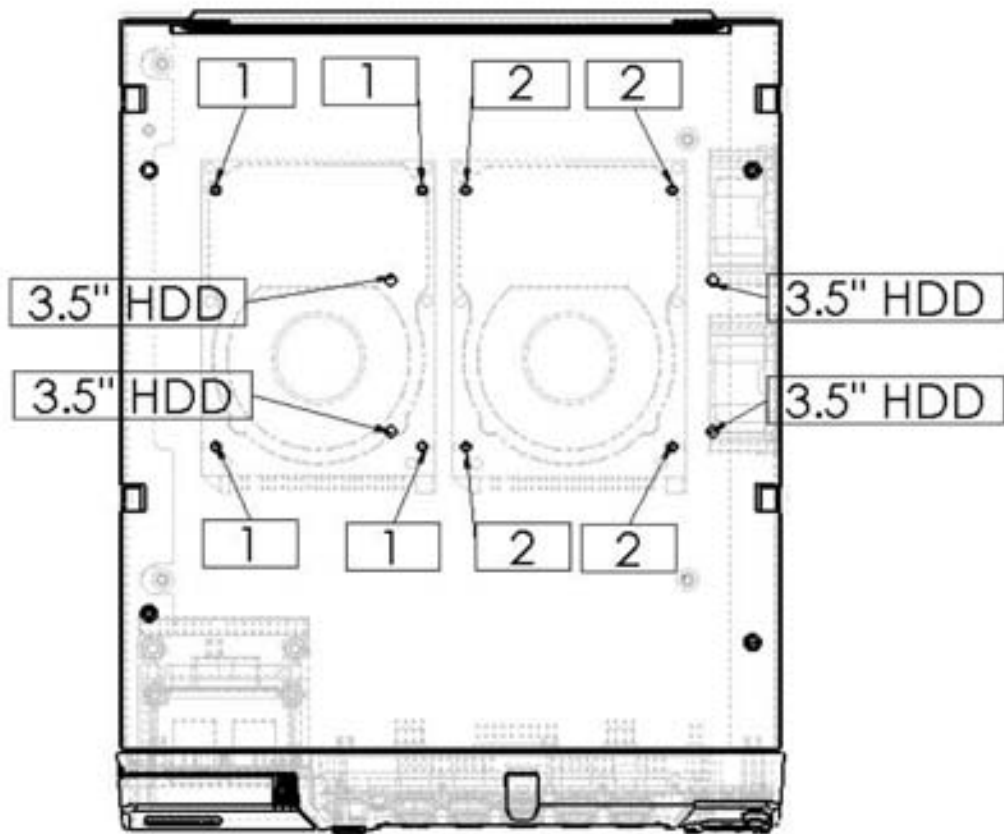

Figure 1.2. top mounting plate
2) Install the 2.5" or 3.5" hard drive(s) if necessary using 3mm undercut screws Note: The M200 does not permit the installation of a 3.5" drive. The hard drives (and any optional hardware) will be fastened into the *top mounting plate*, see figure 1.2. The service plate is a flat aluminum plate, placed under the top lid.